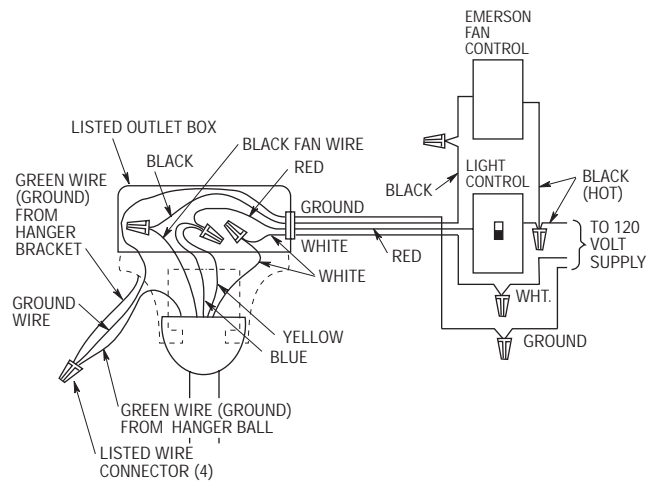

Figure 10B
- 16. For a wall control installation you will need a three-wire (with ground) conductor cable between the ceiling and wall outlet boxes. This will allow you to control the fan separately from the lights. Figure 10B is a basic wiring diagram that will control the uplight and downlight on a switch and the fan on a separate control. Refer to the installation instructions and wiring diagrams supplied with the Emerson Fan Control Owner's Manual.